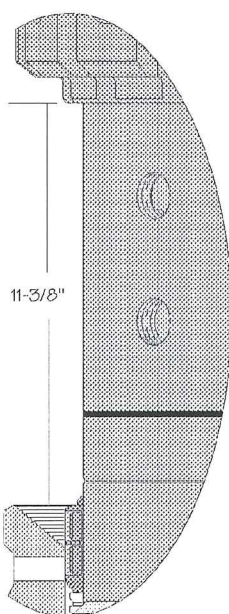

Figure 15. Detail of the Running Tool stroked fully open
- d. Verify the Running Tool is fully stroked open by measuring from the top of the anti-rotation key to the bottom of the lower outer body of the Running Tool. The measurement should be 11-3/8". Refer to **Figure 15**.